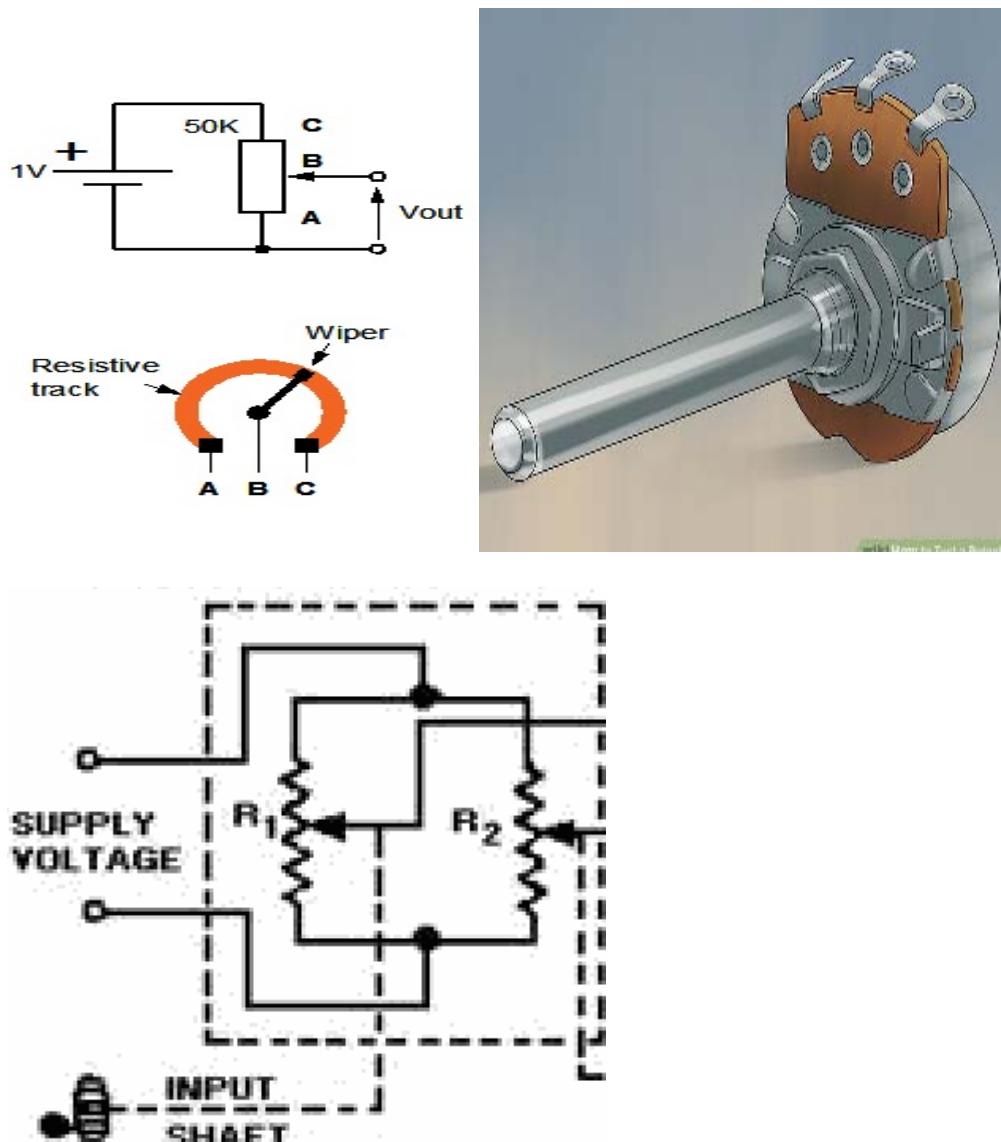

Figure 1
1. Connect the Potentiometer as shown in figure 1.